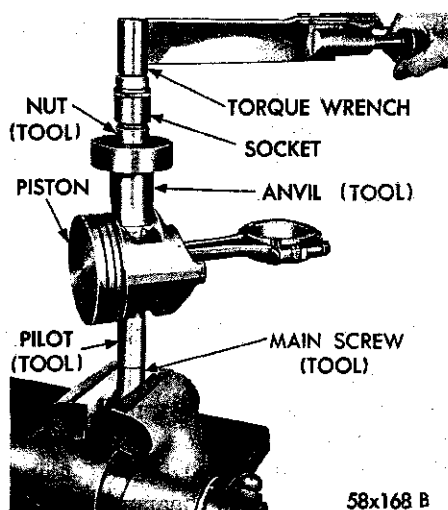

Fig. 42—Testing Fit with Pin in Connecting Rod
(11) Place the assembly in a vise, as shown in Figure 42.
(12) Attach the torque wrench to nut and tighten up to 15 foot-pounds torque. If the connecting rod moves downward on the piston pin, reject this connecting rod and piston pin combination. Obtain a connecting rod with proper small end bore diameter and repeat the installation and tightening procedure.
(13) If the connecting rod does not move under 15 foot-pounds torque, the piston pin and connecting rod interference is satisfactory, the tool may be removed.